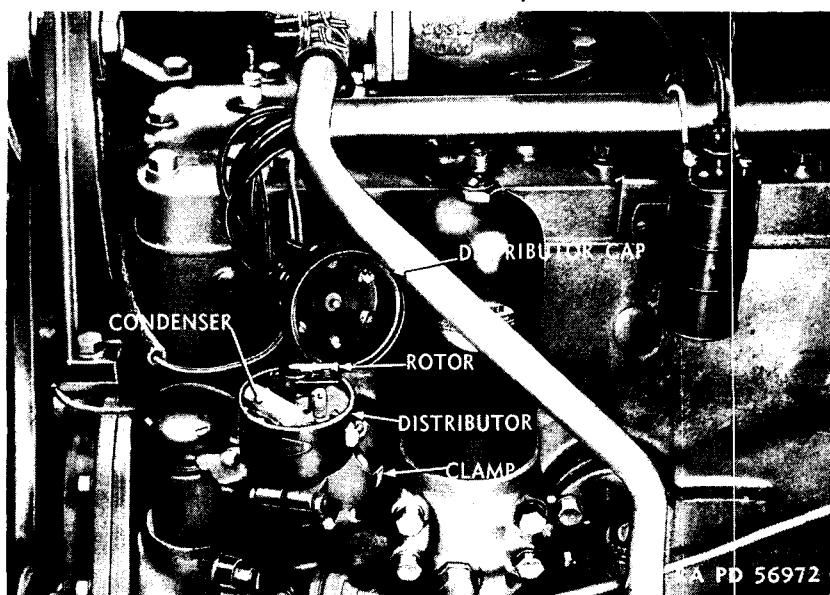

Figure 67—Distributor—Cap Removed
(1) DISTRIBUTOR CAP. The distributor cap (fig. 67) must be kept clean and should be constantly inspected for cracks, carbon runners, evidence of arcing, or corroded high-tension terminals. If any of these conditions are present, the cap should be replaced. After a distributor cap has had normal use, the inside of the cap inserts will become slightly burned. If these inserts are badly burned at any other point, the cap should be replaced.
(2) ROTOR. The rotor should be inspected for cracks. If cracks are found, it should be replaced. After a rotor has had normal use, the end of the contact will become burned. If this burning is not excessive, and is found only on the end of the metal strip, the rotor need not be replaced. If burning is found on the top of the strip, it indicates the rotor is too short, and needs replacing. Usually when this condition is found, the distributor cap inserts will be burned on their horizontal face, and the cap also will need replacing.
(1) Snap down the two distributor cap springs and lift off distributor cap (fig. 67). NOTE: Do not remove any wires from the distributor cap.
(2) Lift rotor up from the shaft, and remove.
(3) Remove screw securing condenser lead and breaker arm to breaker plate.